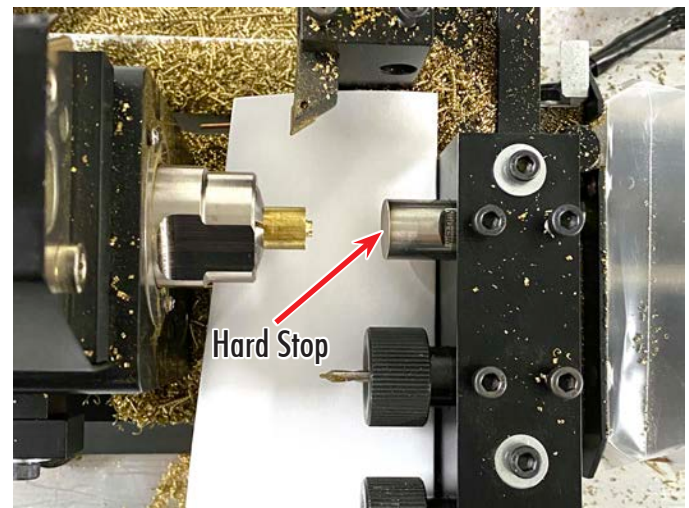

FIGURE 63
4. If you have a hard stop set up on your crossslide, position your crossslide so the hard stop is in front of the end of the stock. If you don't have a hard stop, position one of the tool post in front of the stock (see Figure 63).